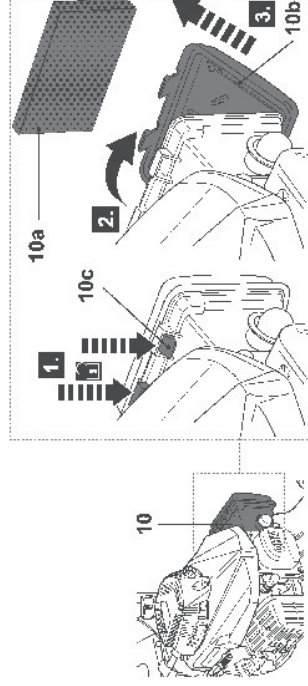

Fig. 17
2. Press the latches (10c) downward to disengage and open the cover (10b) (Fig. 17).
4. Apply a small amount of air filter oil on the filter to increase the performance of the filter. Wring out surplus oil and put the air filter (10a) back into the air filter case (10).